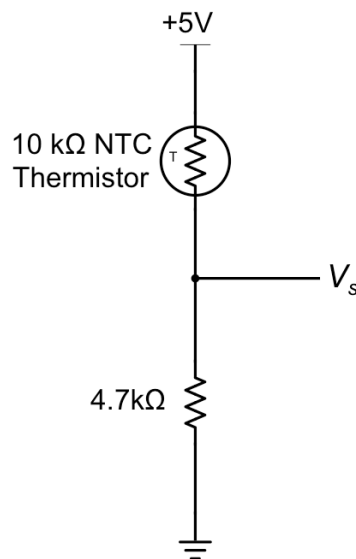

Figure 1 – A thermistor is wired up in a voltage divider circuit. Note that the voltage divider is now driven by 5V instead of 12V.
1. Construct the thermistor voltage divider circuit near the top of the big breadboard (not the portable one). The Arduino does not like voltages above 5V, so you will use the **5V DC power supply for V_{in}** on the voltage divider, as shown in Fig. 1. (Don't forget to update your analysis accordingly!)